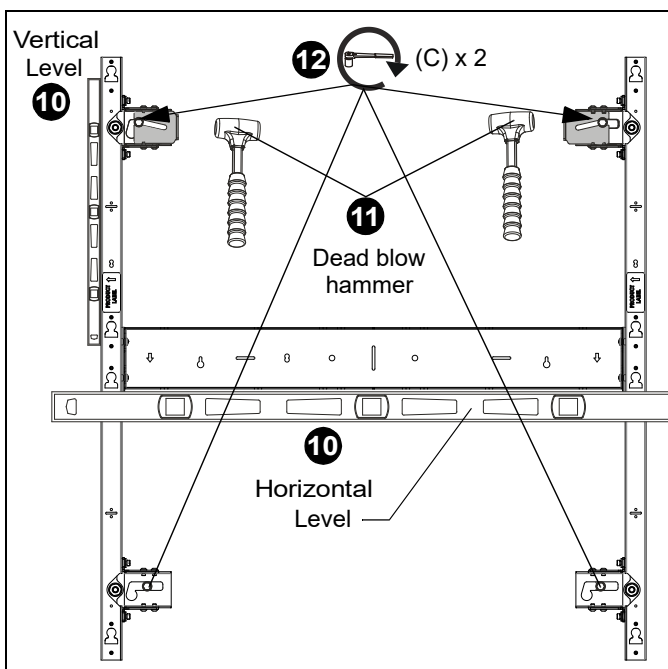

Figure 14
10. Check the level of the mount horizontally at the bottom of the teardrop slots and vertically on the side of the uprights. (See Figure 14)
11. If the mount is not level, slide or use a dead blow hammer to lightly tap the spacer into place. This will lift the mount up as the lag screw rides in the washer's angled slot. (See Figure 14)
12. When the mount is leveled, tighten the lag screws (C). (See Figure 14)